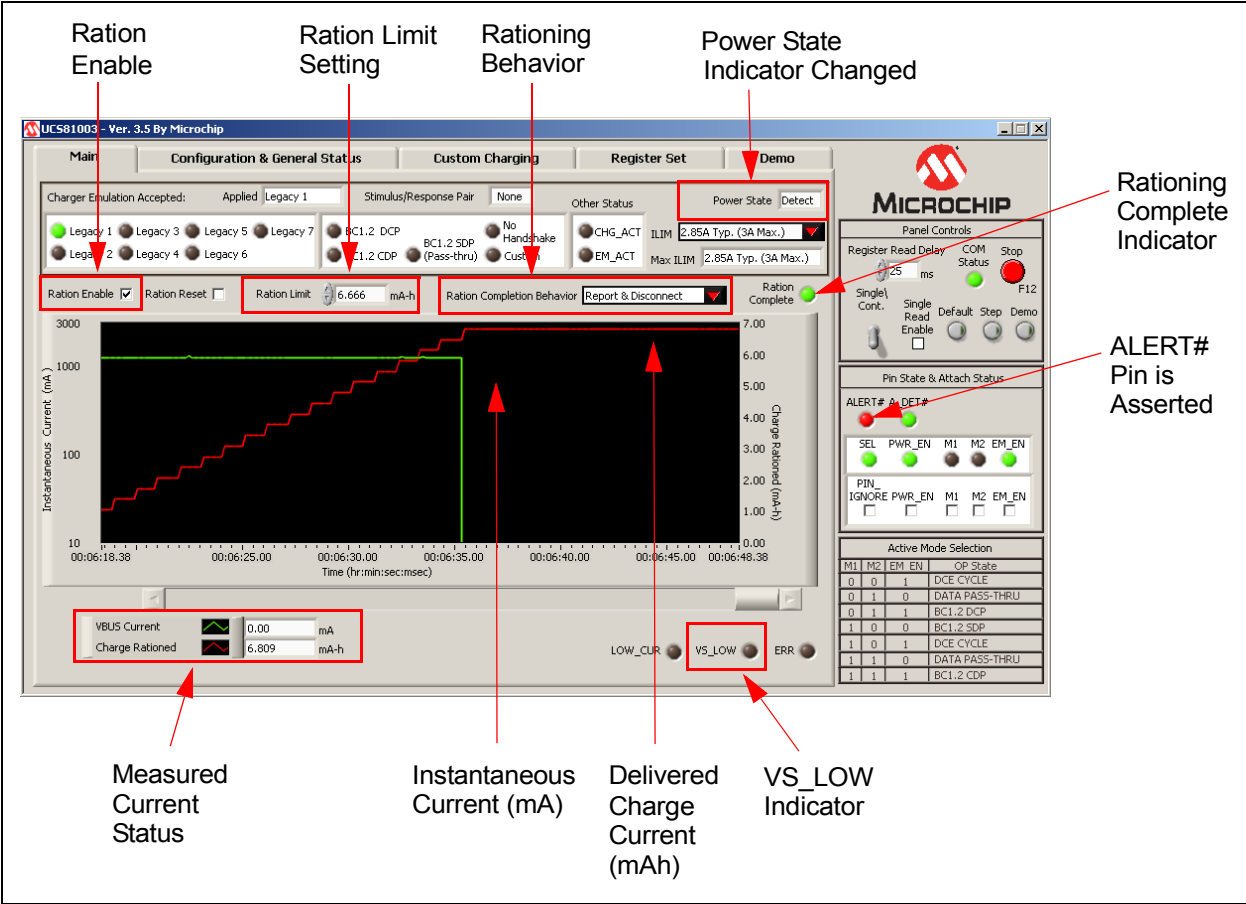

FIGURE 4-10: Main Tab - Ration Limit Reached.
6. Watch the GUI as the device starts charging. Figure 4-10 shows the interface after the ration limit was reached (for “Report & Disconnect” behavior setting).
Note: As shown in Figure 4-10, the green trace is the instantaneous current, while the red diagonal line is the charge being delivered in mAh. Both are also presented in numeric format in the bottom left boxes. Trace color and characteristics can be changed by clicking on the waveform boxes to the left of these numerical values.